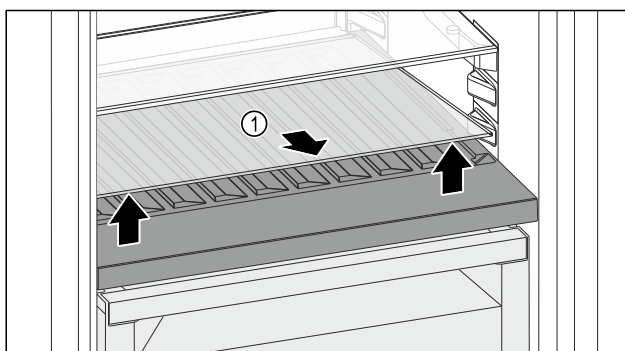

Fig. 209
- Lift the glass shelf Fig. 209 (1) at the front and remove.
- Store the glass shelf Fig. 209 (1) in a safe place outside the appliance.
- Insert the glass shelf (2) under the variable bottle rack.